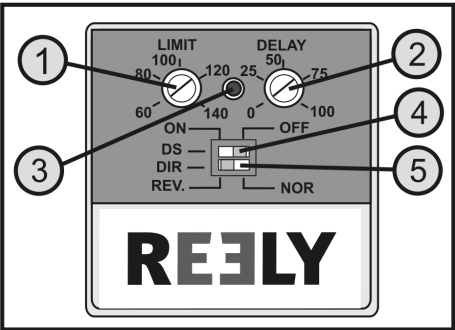

Figure 20
Setting controller for the path limitation of the tail servo „LIMIT“ (see figure 20, item 1)
Setting controller for the path limitation of the tail servo „DELAY“ (see figure 20, item 2)
LED display for the respective operating conditions (see figure 20, item 3)
Switching analogue/digital servo „DS“ (see figure 20, item 4)
Switching the servo rotating direction „DIR“ (see figure 20, item 5)